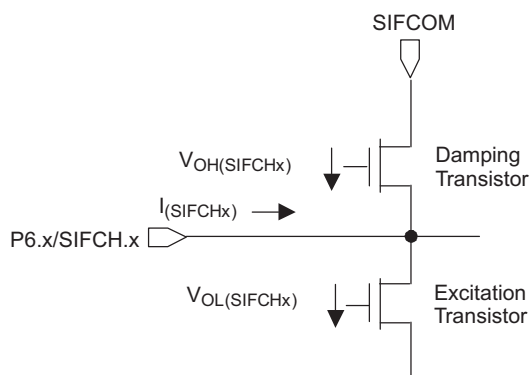

Figure 19. Voltage Drop Due to On-Resistance
(1) SIFCOM = 1.5V , supplied externally (see Figure 19)